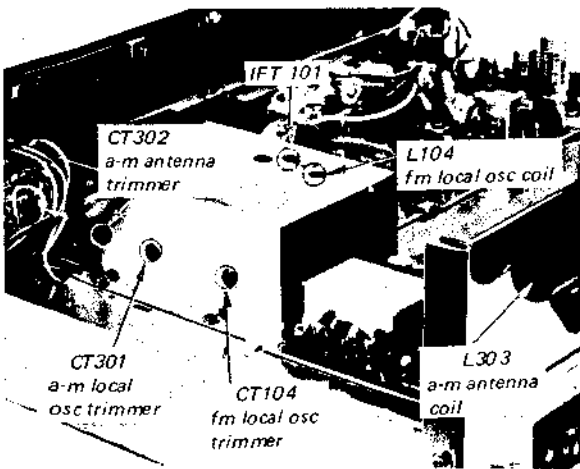

Fig. 3-5 Parts location
3. Turn the core of transformer IFT101 (See Fig. 3-5) with the alignment tool to obtain maximum output.
2. Check the dial scale for a calibration accuracy of ±200 kHz from the carrier frequency of the station. If the dial-accuracy deviation exceeds this limit, turn local-oscillator coil L104 slightly as shown in Fig. 3-5 until optimum dial calibration is obtained.
3. Tune the receiver to the highest-frequency station in your locality. If the dial-calibration error is excessive, adjust local-oscillator trimmer CT104 to obtain maximum calibration accuracy. See Fig. 3-5.
2. Tune the receiver to the highest-frequency station in your locality. If the dial calibration error exceeds ± 30 kHz from the station carrier frequency, adjust local-oscillator trimmer-capacitor CT301 (see Fig. 3-5) to obtain maximum calibration accuracy.
1. Tune the set to the station whose carrier frequency is closest to 620 kHz and adjust the position of antenna coil L303 as shown in Fig. 3-5 to obtain maximum output.